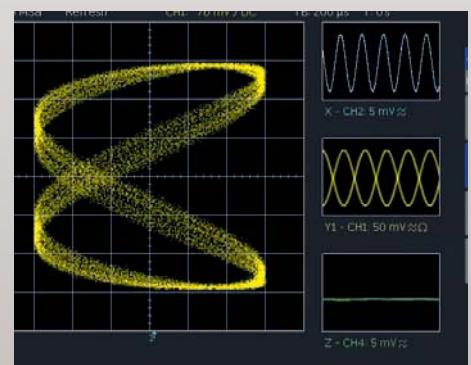

Figure 2: Persistence as a function of writing speed can be seen in the Lissajous curves. Luminance modulation via Z channel is set up to 100%
The X-Y-Z operation can also be directly accessed via a dedicated key, so no entering of display menus is necessary. The X-Y-(Z) curves (see figure 2) are displayed in a square main pane, whereas the X, Y and Z signals are shown in additional small preview panes as curves in the time domain. On closer examination of figure 2, the persistence of X and Y signals can be seen in the Lissajous diagram. Controlling the Z channel (e.g. CH 3) provides for an additional luminosity modulation as used e.g. in constellation diagrams. Of course, cursor measurements are also available in X Y Z mode of operation.